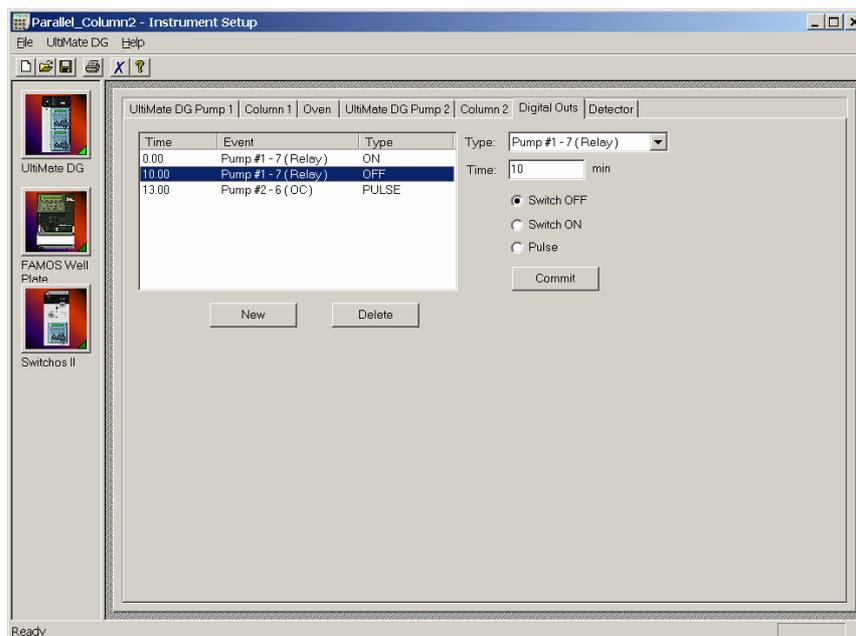

FIGURE 3-24 Controlling the Nano Switching Valve and the UV Autozero
- b) To switch the Nano Switching Valve back after 10 minutes and to generate the autozero signal, program the event outputs of gradient pump 2 as presented in FIGURE 3-24.